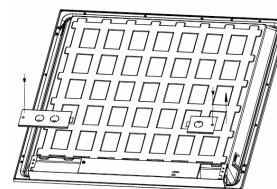

Fig. 4
4. Connect power feed to driver box (Fig. 4)